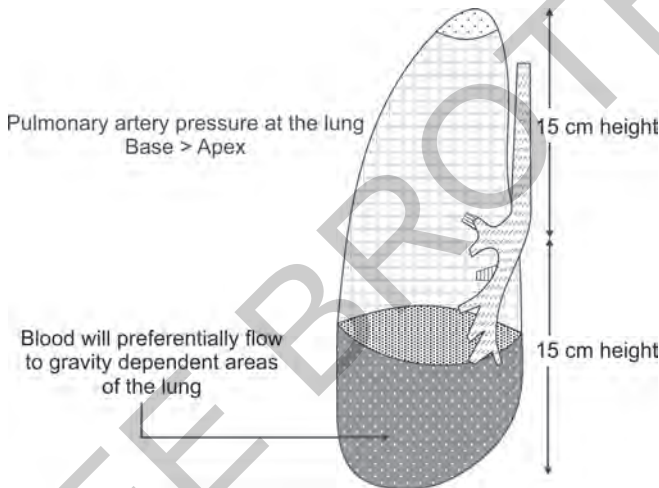

Figure 3.8: Gravitational effects on blood flow
a. *Gravitational effects on blood flow: Figure 3.8*